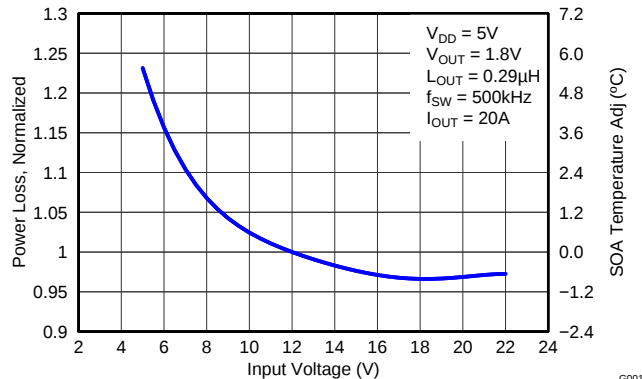

Figure 9. Normalized Power Loss vs Input Voltage
- Normalized Power Loss for input voltage  $\approx 1.10$  (Figure 9)
- SOA adjustment for input voltage  $\approx 2.5^{\circ}C$  (Figure 9)